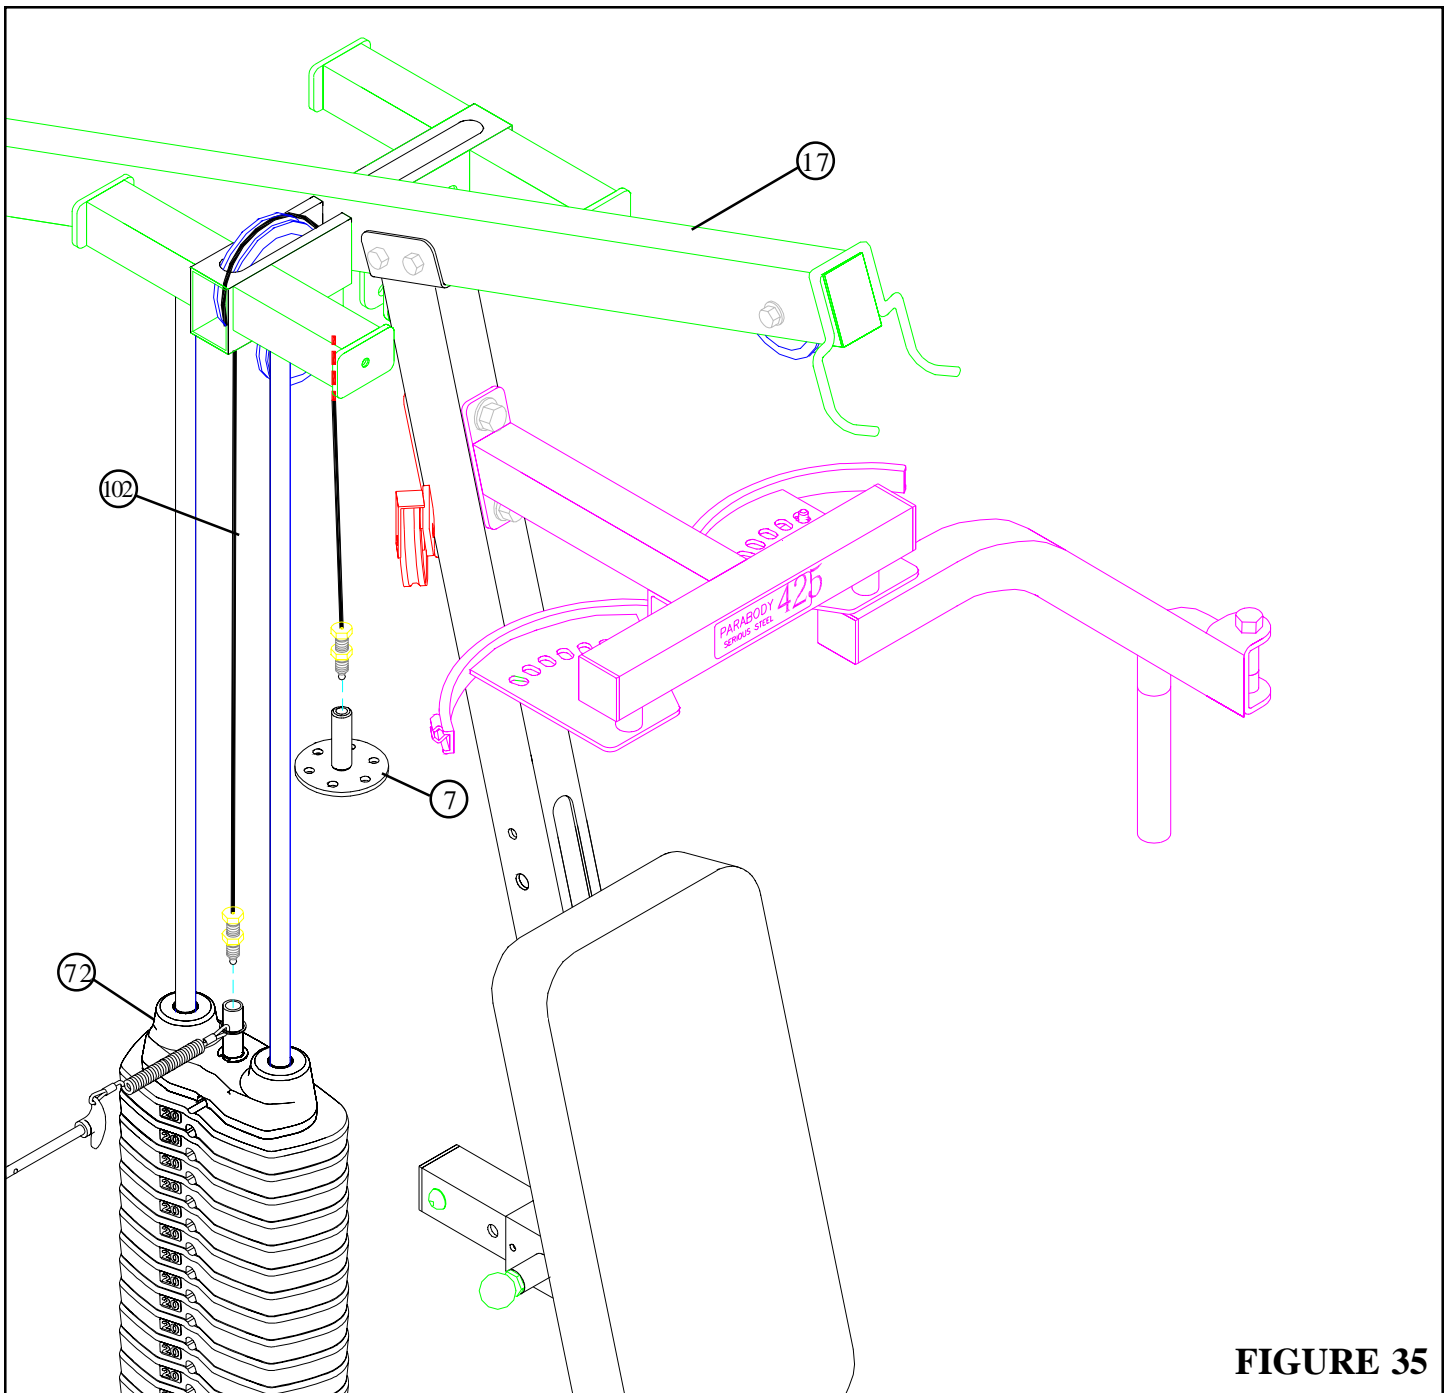

FIGURE 35
- To assemble the D-RING CABLE (102) follow the cable routing as shown and use the following steps:
- Screw one of the threaded ends of the D-RING CABLE (102) approximately 1" into the end of the shaft on the HEAD PLATE (72) as shown in FIGURE 35.
- Route the CABLE (102) up and over the two PULLEYS in the TOP BOOM (17) above the WEIGHT STACK. (**Remove pulleys for ease of installation.**)
- Screw the other threaded end of the D-RING CABLE (102) approximately 1" into the end of the shaft on the D-RING (7) as shown in FIGURE 35.